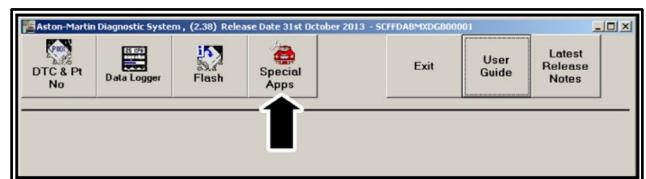

Figure 12
23. Click "Special Apps" (refer to Figure 12).